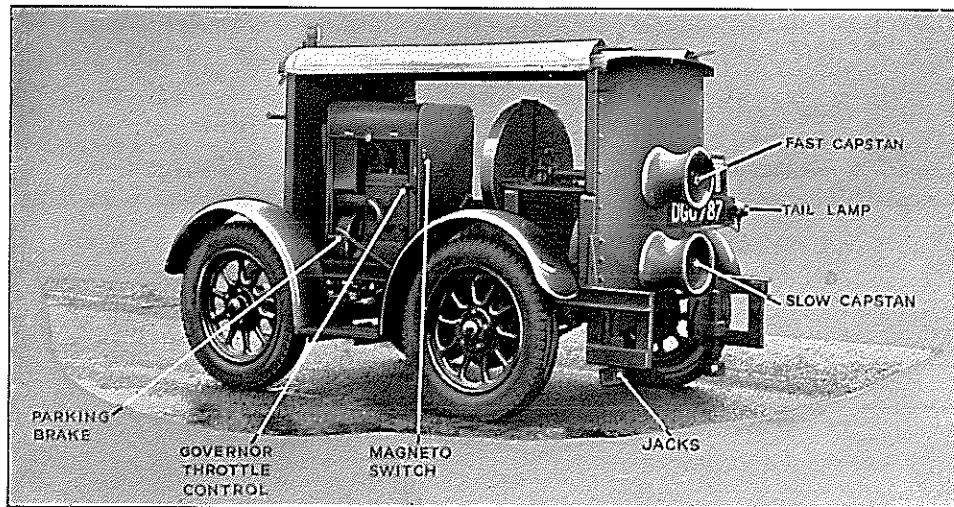

FIG. 3.—LACY-HULBERT WINCH—TRAILER TYPE (REAR VIEW)
(f) Set the governor throttle-control handle (Fig. 3) to the START position, i.e. when the red mark on the hand wheel points to "Start."
16. **Winch gear.**—It is essential that one man who is known to be fully conversant with the working of the winch be instructed to guard the winch continuously during operation. In addition, the POSITION AND FUNCTION OF THE MAGNETO SWITCH (see Fig. 3) MUST BE CLEARLY POINTED OUT TO EVERY MEMBER OF THE GANG, so that any one of them may be able to stop the winch in an emergency by switching off the ignition. Care should be taken, at all times, to ensure that no part of the man's clothing comes into contact with the revolving capstans, as serious injury may result.